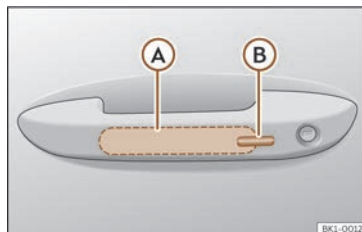

Fig. 69 Driver door lever: sensor surfaces.
>>> **Fig. 69**
- Touch the sensor surface >>> **Fig. 69** (B) on the outside of the door handle. All turn signals flash once.
- Within 5 seconds, touch the sensor on the outside of the door handle >>> **Fig. 69 B** once. Do not grip the handle while doing so. This temporarily deactivates the Keyless Access system.
To close all the electric windows and the sunroof using the **comfort function**, keep a finger for a few seconds on the locking sensor surface >>> **Fig. 69 B** of the door handle until the windows and roof have closed.